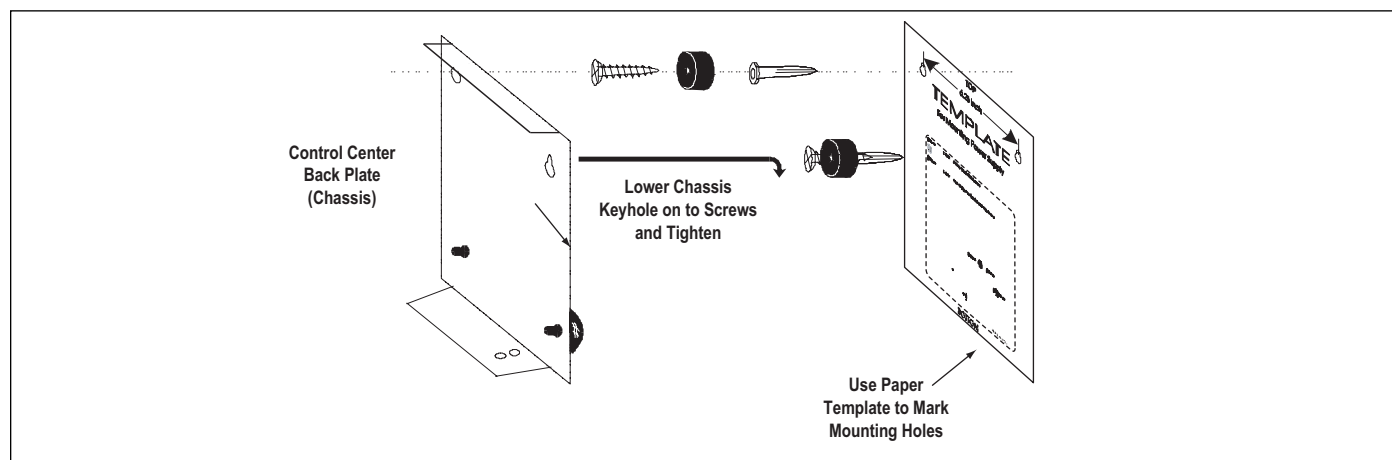

Figure 9. Mounting the Control Center
2. Use hardware provided and mount the control center at eye level. Leave sufficient clearance on all sides of the backplate (chassis). If possible leave a minimum of 9½ inch (241 mm) on the left side. Mark screw centers and drill two ¼ inch (6.35 mm) holes spaced 6¼ inches (159 mm) on center. Install the anchors, rubber weather seal, and screws provided. See Figure 9.
3. The control center front cover is held to the metal back plate (chassis) by four retaining screws. Unscrew the four screws and remove the front cover. Position the back plate (chassis) keyhole slots over the two mounting screws just installed. Tighten the screws until snug. See Figure 9.